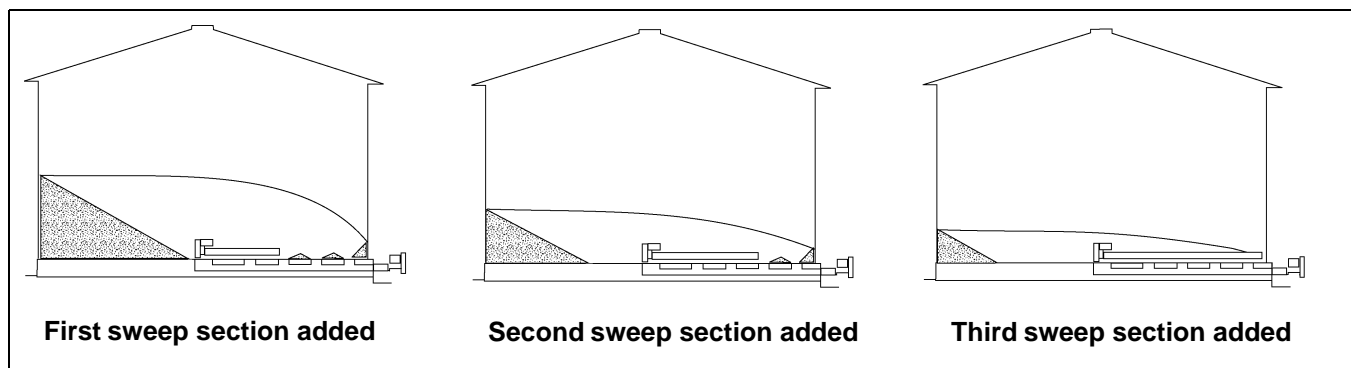

Figure 5E
4. The Commercial Sweep Augers are made with the sweep auger and back shield in two (2) or more sections. One of the sections can be used first alone by attaching the section to the drive unit and mounting the reduction wheel on that section. Then, after the center portion of the bin has been emptied, another section of sweep auger and back shield may be added and the unloading process continued. (See Figure 5E.) If the sweep is equipped with a truss, be sure to tie-off extra cable length so it does not become entangled in the sweep auger. Always shut down the unloading equipment and lock out power before entering the bin.